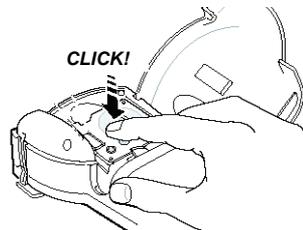

Figure 5
4. Insert the cassette with the label and ribbon positioned between the print head and pinch roller. See Figure 5.